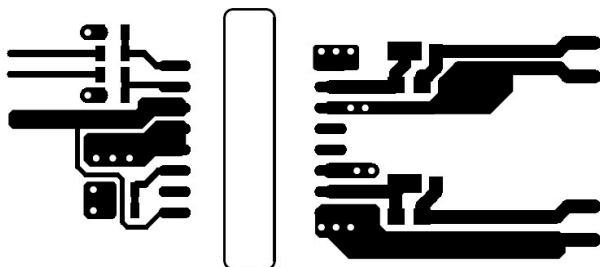
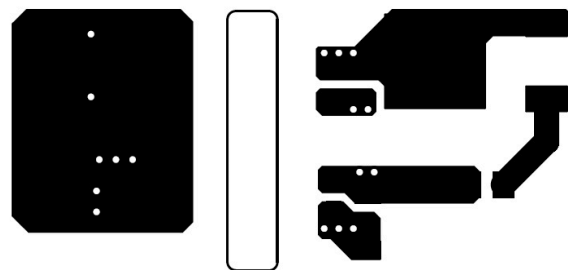

Figure 10-2. Top Layer Traces and Copper
Figure 10-3. Bottom Layer Traces and Copper
- Increasing the PCB copper connecting to VDDB, VSSA and VSSB pins is recommended, with priority on maximizing the connection to VSSA and VSSB (see Figure 10-2 and Figure 10-3). However, high voltage PCB considerations mentioned above must be maintained.
Figure 10-2 and Figure 10-3 shows top and bottom layer traces and copper.